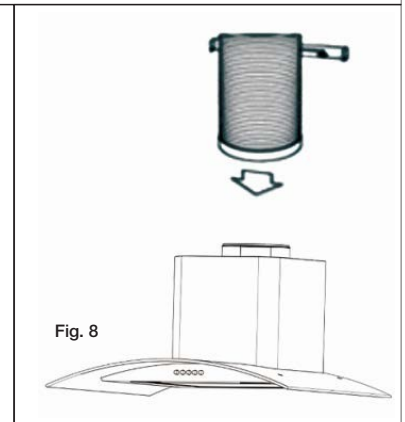

Fig. 8
- Place the plastic duct on the cooker hood. (Fig. 8)